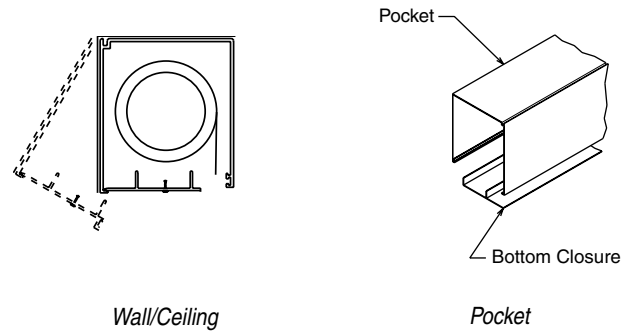

Figure 3
- ③ Remove face cover from head box by pulling down and out on the bottom edge of cover near end caps. It will snap off (see Fig. 3). If this is a pocket installation, remove screws at end caps. The bottom of the cover box
snaps down and off at end caps and then slides out of slot in cover box (see Fig. 3).